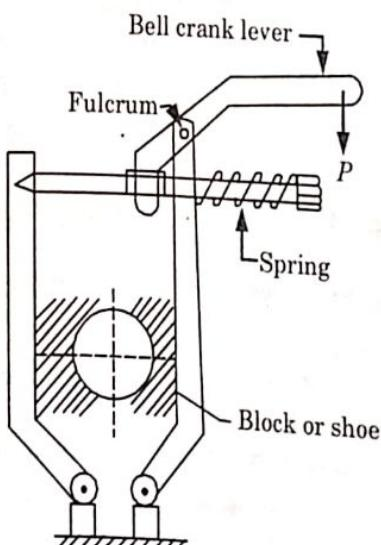

Fig. 5.8.1. Double block or shoe brake.
3. Fig. 5.8.1 shows a double block or shoe brake.